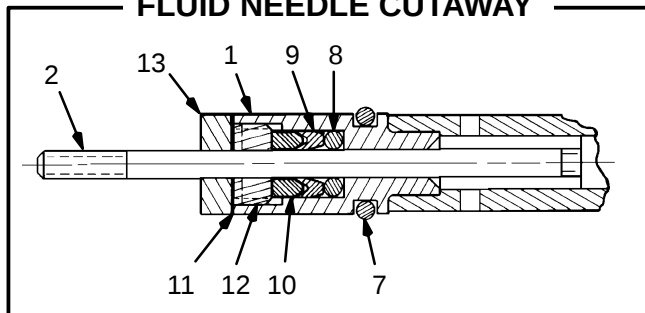

Fig 2
3. Carefully remove the fluid needle assembly (C) from the rear part of the gun barrel (D). See Fig 2. If the needle packing assembly is still in the barrel, insert the packing removal rod, supplied with your gun, into the front of the barrel to gently push it out.
5. If the needle parts are purchased separately, assemble them as shown in the **Fluid Needle Cut-away**, shown in Fig 2.
6. Install the new fluid needle assembly (C) into the gun barrel (D). See Fig 2.
7. Firmly tighten the packing nut (5) down until it bottoms.